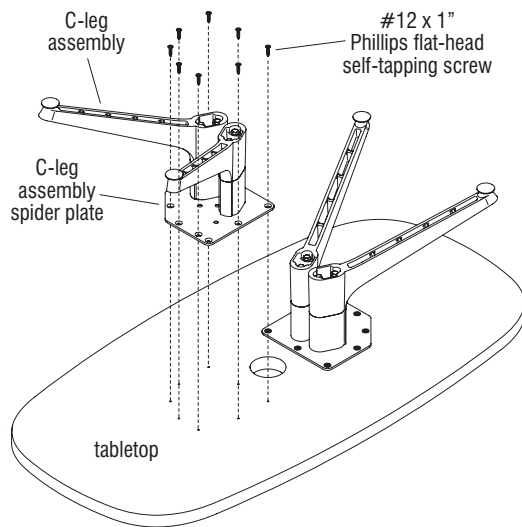

Figure 2
3. Carefully place the tabletop upside down on a soft, protective surface (Figure 2).
4. Align the mounting holes of each C-leg assembly spider plate over the pre-drilled holes in the underside of the tabletop as illustrated. Using a drill driver with a #2 Phillips tip, secure both C-leg spider plates to the tabletop using eight #12 x 1" Phillips flat-head self-tapping screws per C-leg. Do not overtighten the screws (Figure 2).